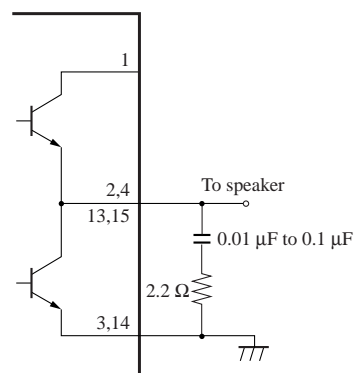

Figure 2
- 1) In order to increase the oscillation allowance, it is unnecessary to use a capacitor and a resistor between each output terminal and GND. However, when inserting the capacitor for counter-measures against output line noise between the output terminal and GND, insert a resistor of approx.  $2.2\ \Omega$  in series as shown in figure 2. The oscillation may occur if only capacitor is used. Use it after giving a sufficient evaluation